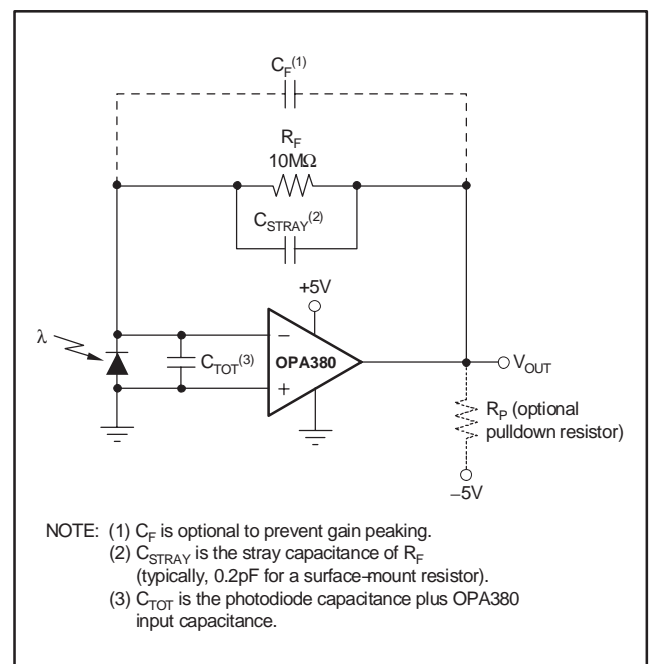

Figure 5. Transimpedance Amplifier
(1) 300-hour life test at  $150^\circ C$  demonstrated randomly distributed variation approximately equal to measurement repeatability of  $1\mu V$ .
(2) Tested with output connected only to  $R_P$ , a pulldown resistor connected between  $V_{OUT}$  and  $-5V$ , as shown in Figure 5. See also applications section, *Achieving Output Swing to Ground*.
The key elements to a transimpedance design are shown in Figure 5: